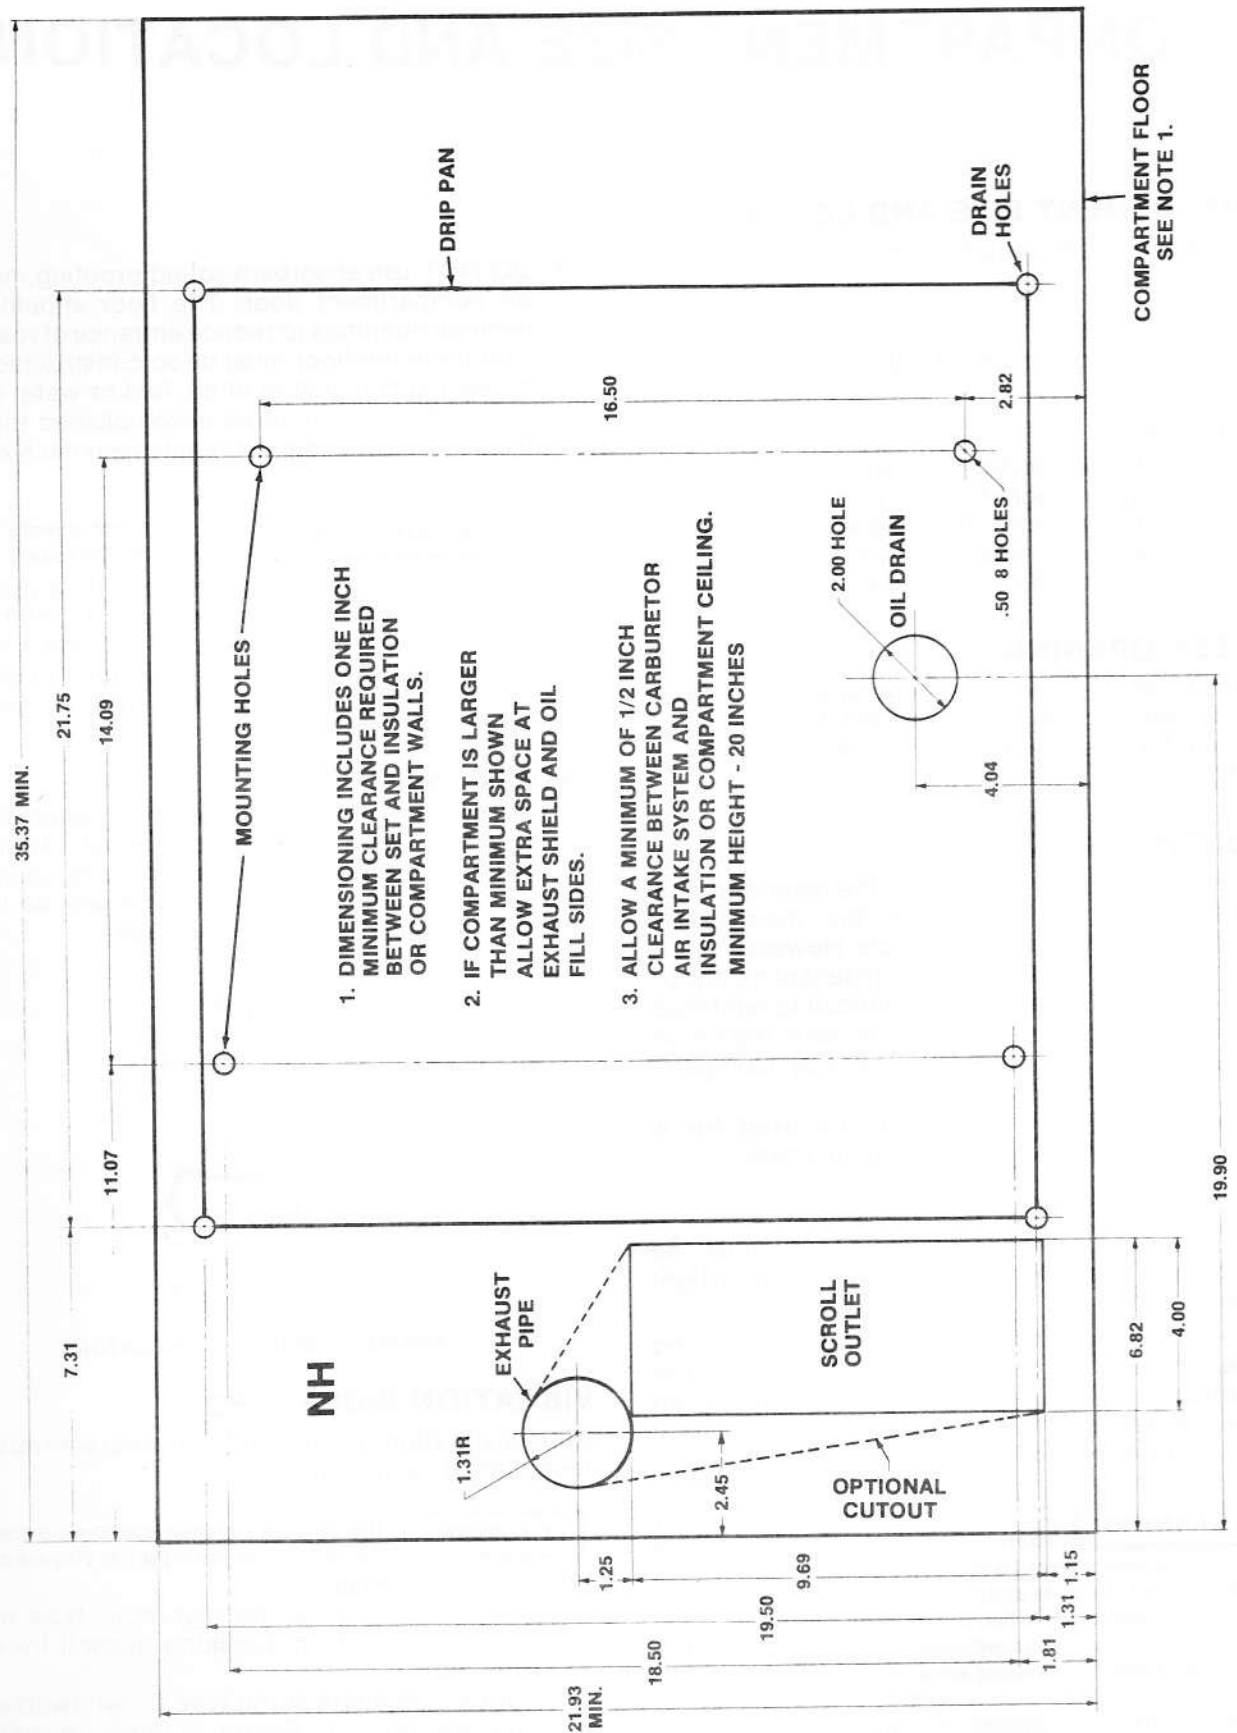

FIGURE 1. TYPICAL INSTALLATION COMPARTMENT SIZE AND MINIMUM DIMENSIONS
The area in the vehicle for the electric generating set must be large enough for the compartment, with specified minimum clearance between the electric generating set and compartment walls or ceiling (and acoustical material, if used). See Figure 1.
3. See Figure 1 for minimum clearances and compartment size.
Insulation must not reduce the minimum clearances as specified in Figure 1 to meet